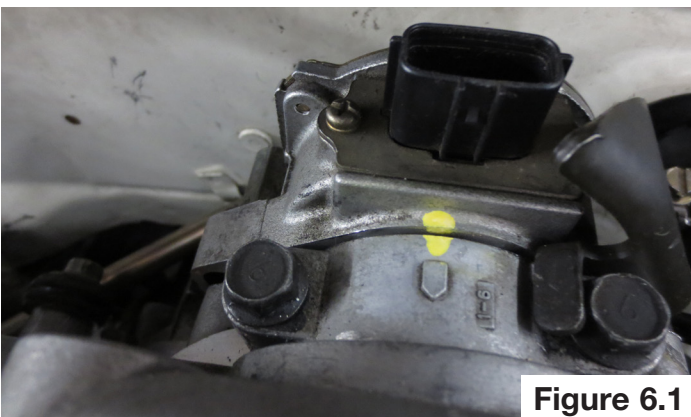

Figure 6.1
- 6) Mark the position of the camshaft position sensor, **Figure 6.1**. Then remove special retaining bolt with a 12 mm wrench, **Figure 6.2**. Only the bolt needs to be removed, the sensor can stay in place.